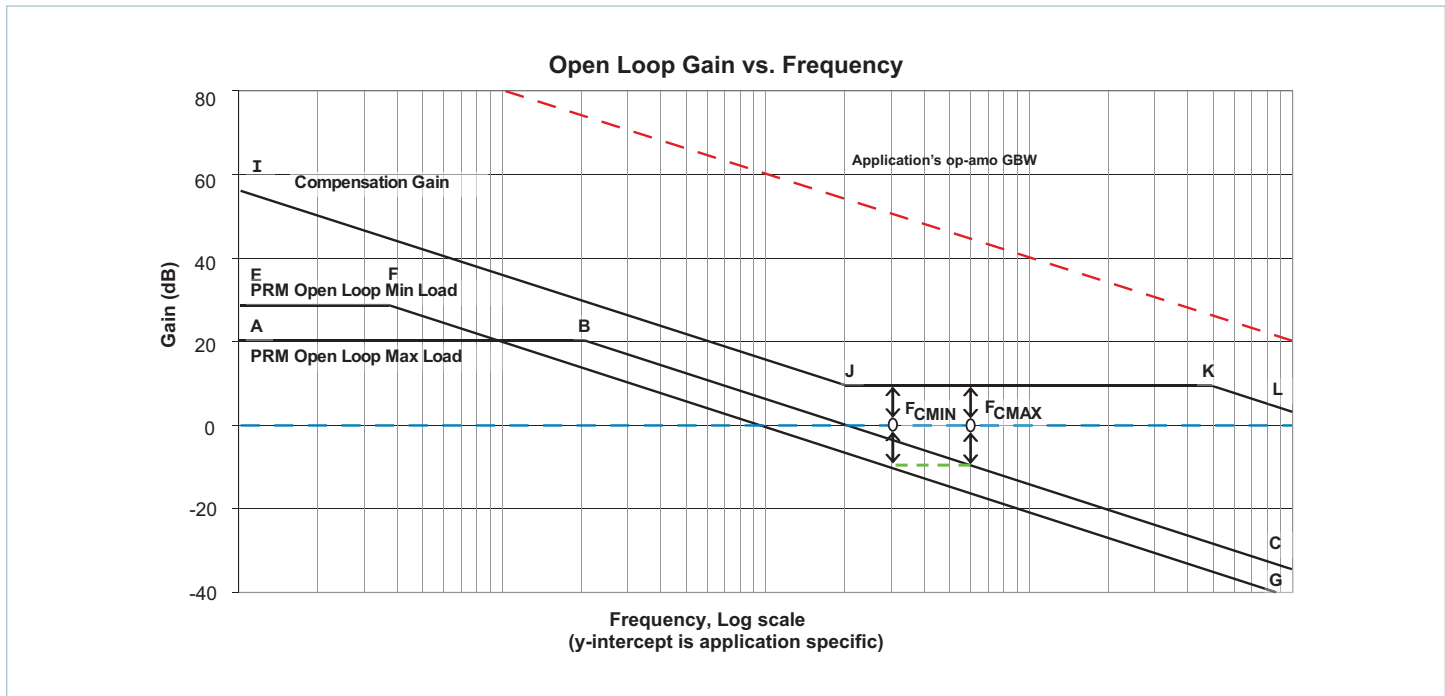

Figure 38 — Reference asymptotic Bode plot for the considered system
Figure 40 illustrates an example of a load step response. Equation (11) can be used to predict the phase margin based on the ratio of the "kick" to "droop" (as defined in Fig. 38).